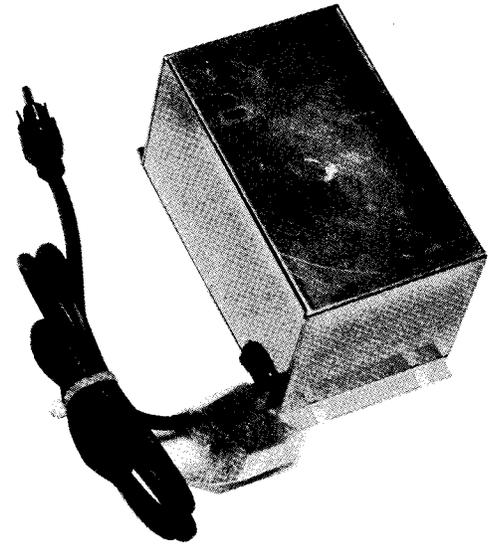

Fig. 1 408A Power Supply
1.1 This section provides a circuit description, installation and basic testing information for the San/Bar 408A Power Supply (Fig.1). The 408A is designed for use in key telephone systems equipped with up to six lines. Also available is a model 408A-1 for use in the San/Bar 6600 KTS.